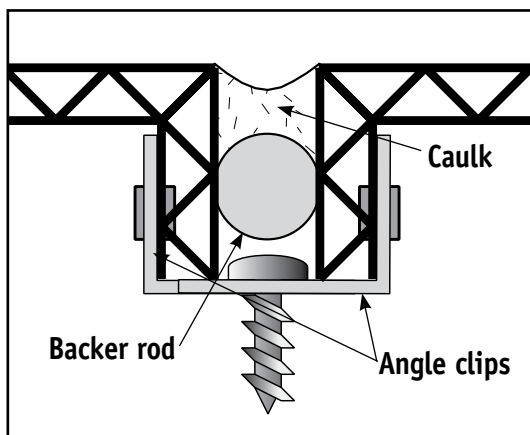

Figure 14
For a caulk joint to function correctly, it should be approximately twice as wide as it is deep, and should be thinner in the middle than at the edges to allow for expansion and contraction without stressing the bond between the caulk and the panel. A correct caulk joint should have an hour-glass shape. See **Figure 14**.
**Figure 14** is a cut-away view of the caulk joint.